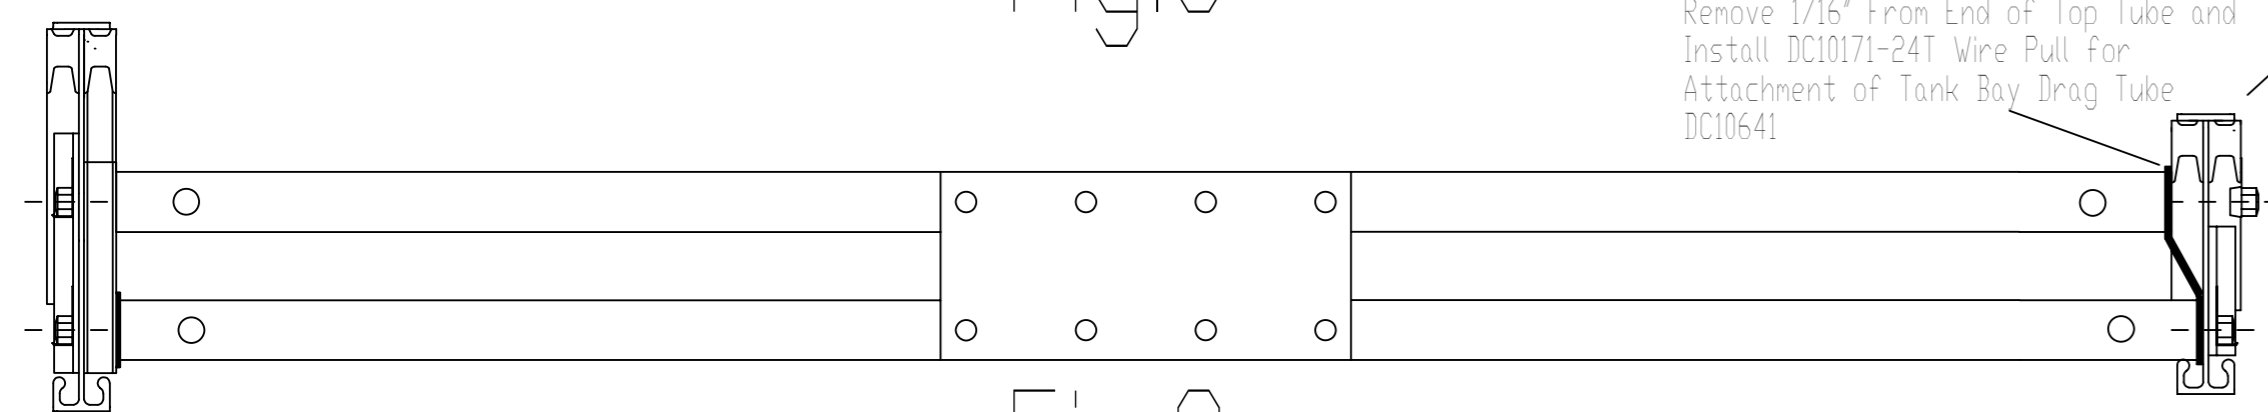

Fig.8
- 3- Remove and modify #1 drag strut assembly as shown in Fig.8, and reinstall with new wire pull DC10171-24T as shown in Figs.8 & 9. New wire pull fitting is installed at the rear spar, and furnishes an attachment point for PA18 tank bay tube DC10641.